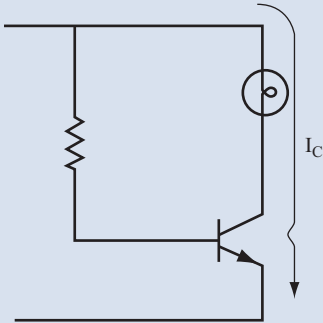

FIGURE 4.2
- B.** See Figure 4.2. In this figure, note that the resistor symbol has been replaced by the symbol for an incandescent lamp.